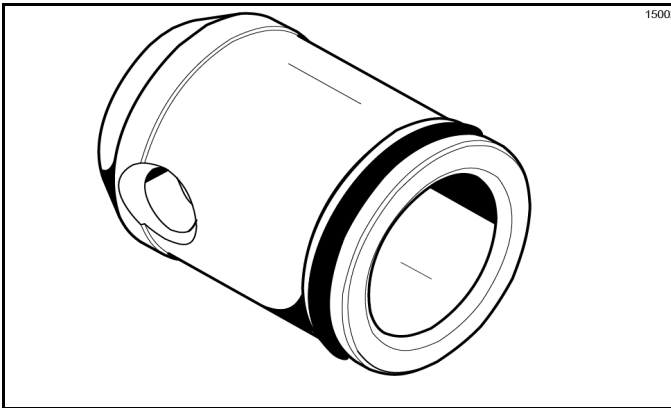

Figure 6-17
2. Assemble the piston. Slide the O-ring into the groove on the piston. **Do not** lubricate this O-ring. (See Figure 6-17.)